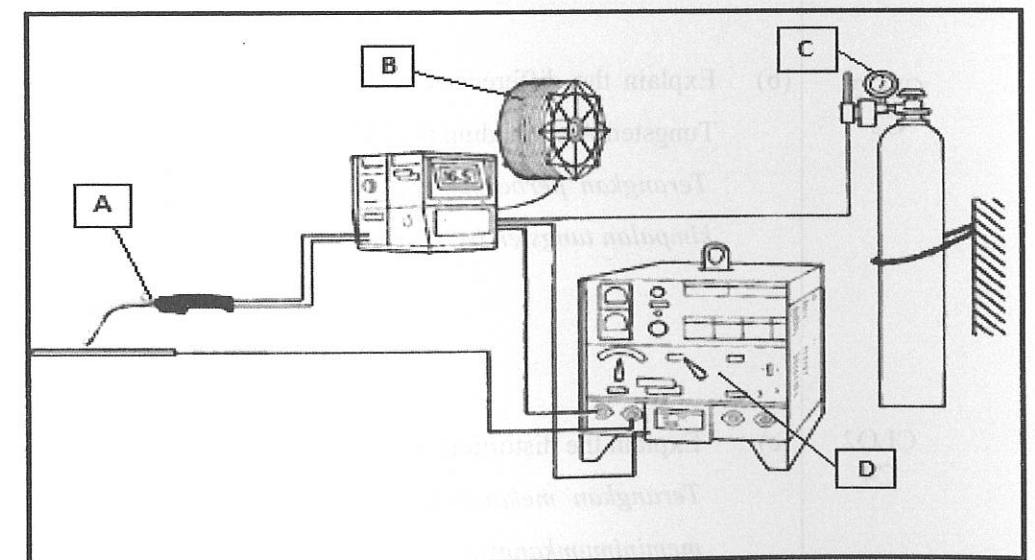

Figure 4a (iii) / *Gambarajah 4a (iii)*
- (iii) Based on **Figure 4a (iii)** below, name **FOUR (4)** main parts of GMAW (MIG) welding machine.